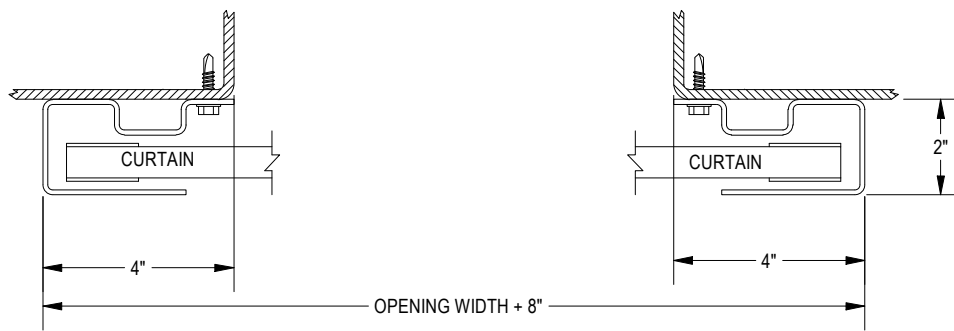

FIGURE 8: STEEL JAMBS
- **STEEL JAMBS:** $\frac{1}{4}$ " - 14 X 1". TEKS SCREW. See Page 9, Figure 8.